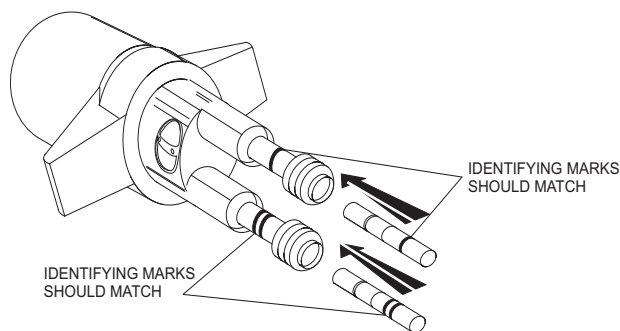

Figure 4. Matching Identifying Marks
3. When inserting mixing tools, also make sure that the identifying marks on both the mixing shaft and the mixing blades match as shown in Figure 4.